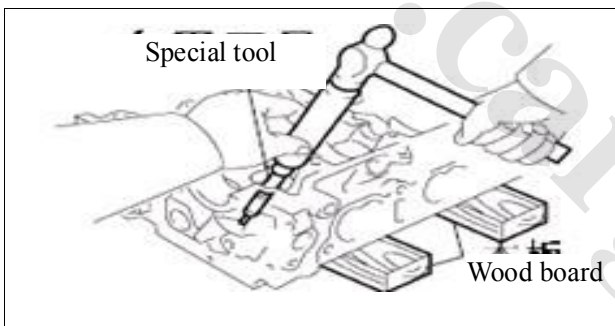

Figure 1-59-31
3) Use a special tool to remove the valve guide from the cylinder head. (See Fig. 1-59-31)